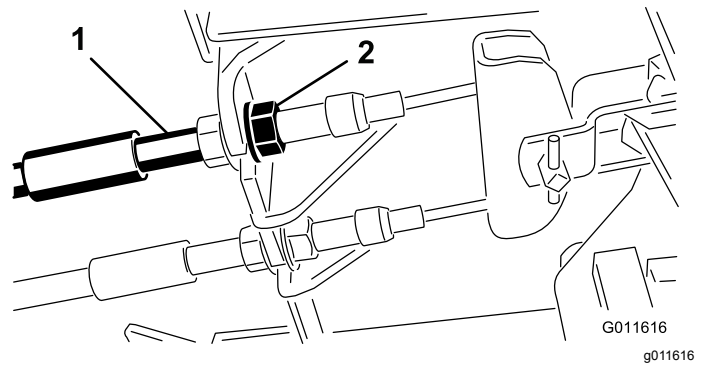

Figure 62
1. To reduce free travel of the brake pedals, tighten the brakes by loosening the front nut on the threaded end of the brake cable (Figure 62).